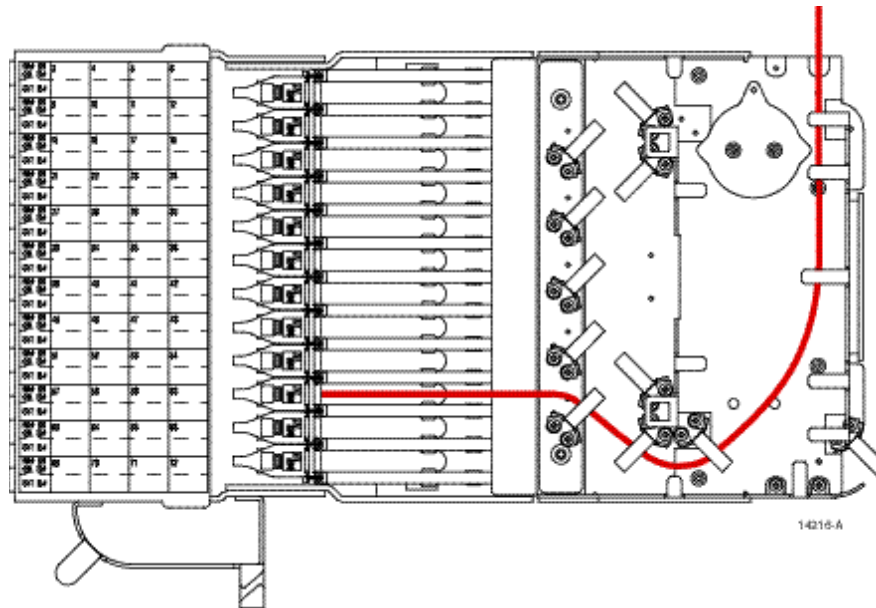
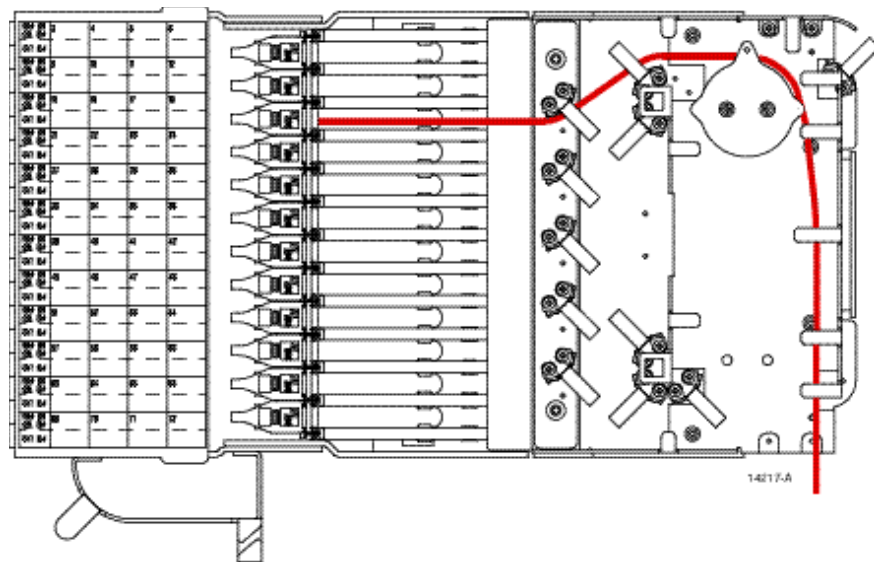

Figure 21. FOT Equipment Patch Cord Internal FTB Routing Detail - Top Entry
Figure 22. FOT Equipment Patch Cord Internal FTB Routing Detail - Bottom Entry
2. If using an overhead guideway, route the patch cord into the FTB from the top as shown in Figure 21. If using an underfloor guideway, route the patch cord into the FTB from the bottom as shown in Figure 22.